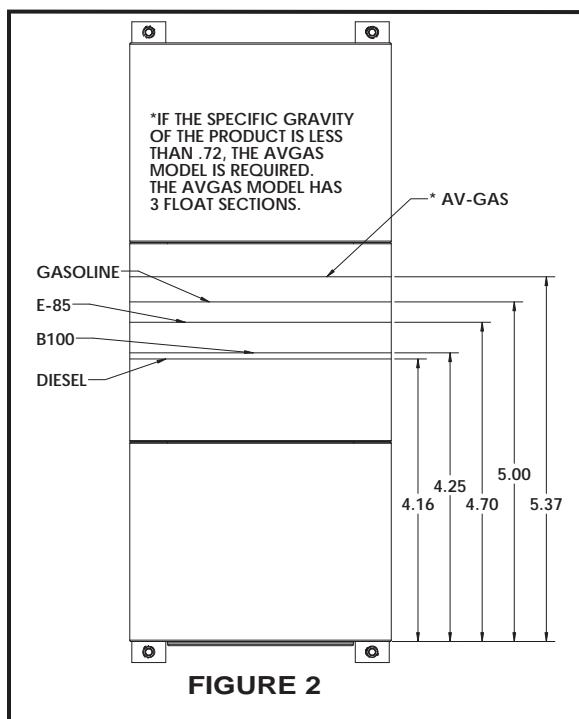

FIGURE 2
3. Refer to Fig. 2. Select the measurement for the fuel you will be storing. Using a ruler, measure up from the bottom of the float and mark a line on your float at that measurement. Use a wax pen or chalk to mark the line.
Note: If you are storing a liquid, other than those noted in Fig. 2, and the specific gravity of your liquid is not the same as one of the liquids shown, you can use the calculation, shown at the end of this document, to determine the measurement to mark your float.
Calculation for shut-off point for liquids with specific gravities different than those shown in Fig. 2.